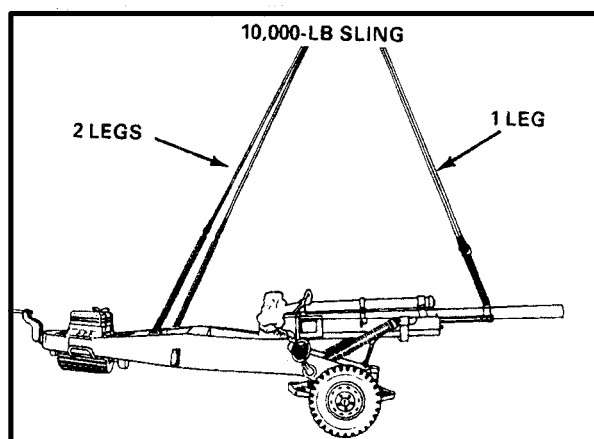

Figure 6-10. Load with Three Lift Points
(3) You may also use this method when hooking up a load with only three lift points (Figure 6-10). Route the extra chain leg through one of the hookup points and use the same chain link number. You will be less likely to lose the fourth sling leg, and the sling set will be ready for another load.